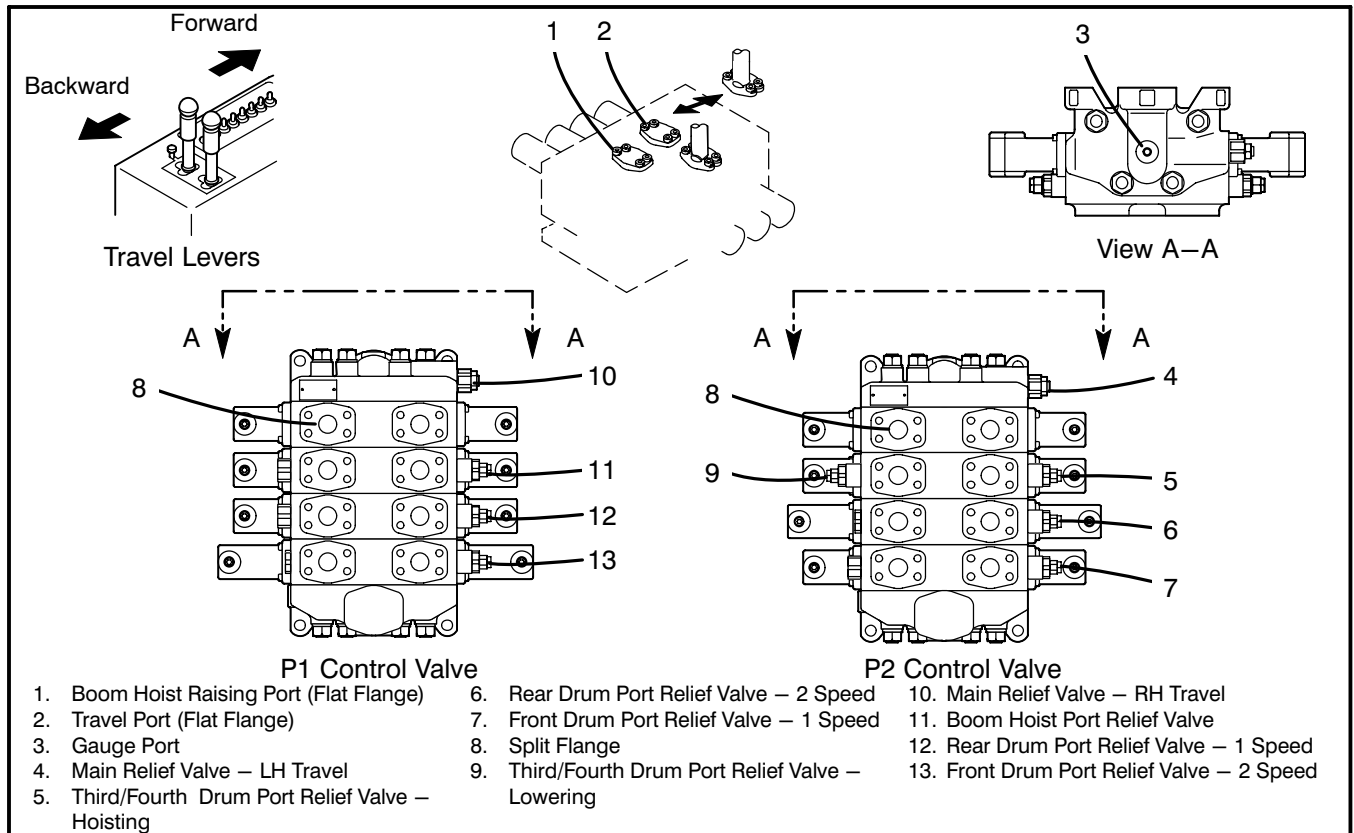

Figure 3-6
4. Install a pressure gauge in the gauge port on the P1 control valve. Refer to Figure 3-6.